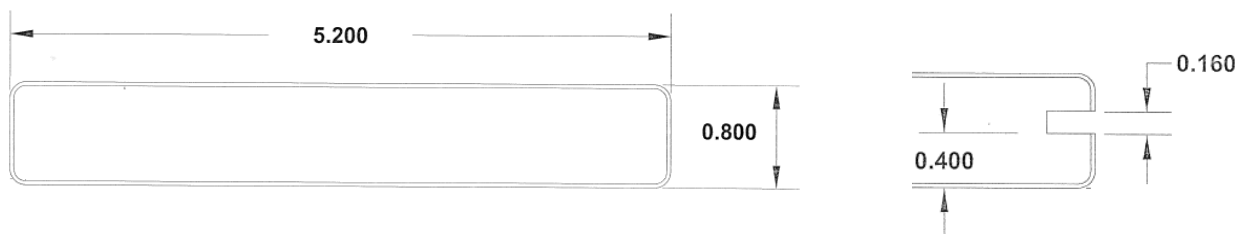

Figure 2 – SLS Composite and Ultra Light Deck Board Profiles
3.2.2. *SLS Composite* and *Ultra Light* deck boards are provided with nominal dimensions of 5.2" wide and 0.800" thick. See Figure 2.